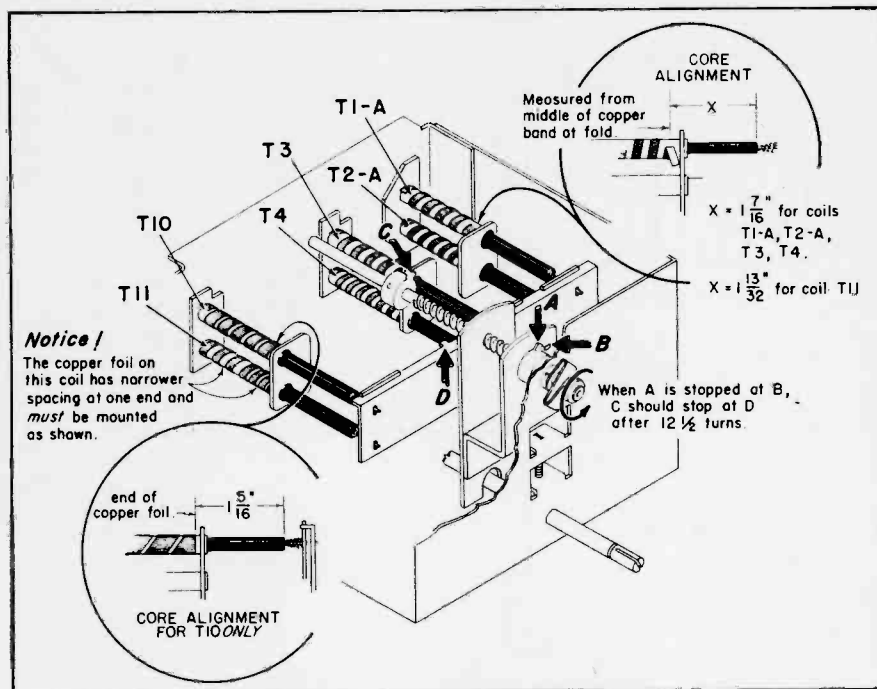
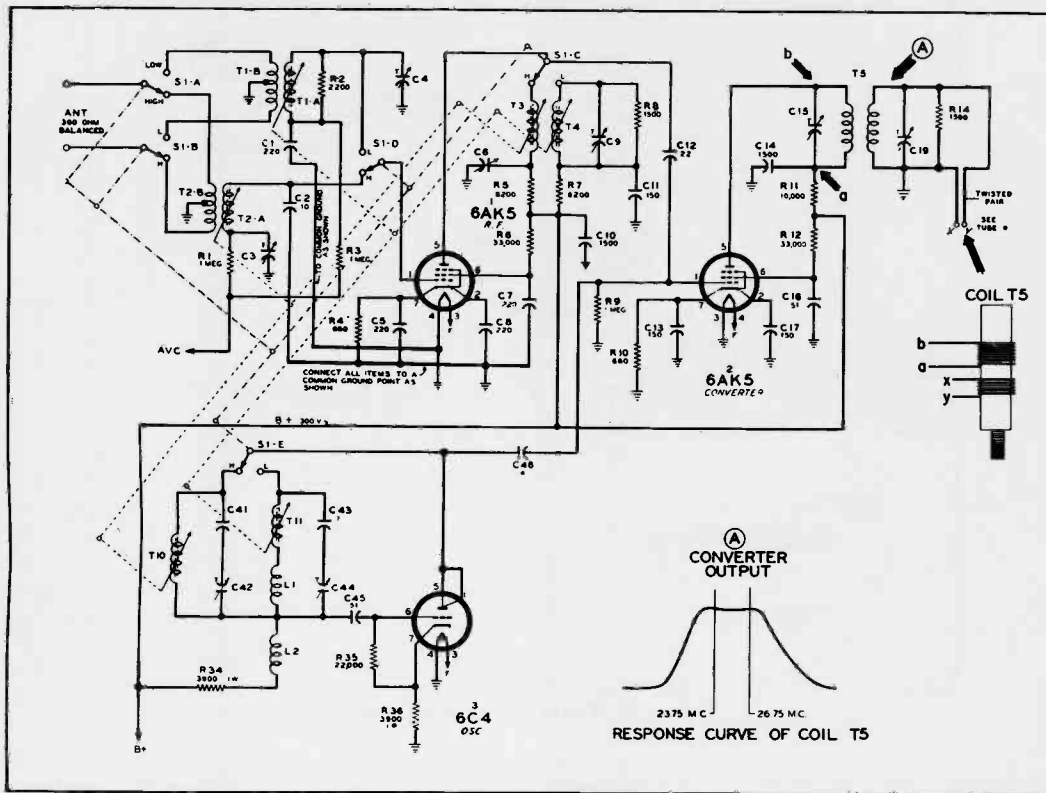

Figure 5. Tuner Core Adjustment
Figure 7. Tuner Section
| <p>No picture No sound Raster normal</p> | <p>a. Check antenna and lead-in. b. Check for defective tubes 1, 2, 3, 4. c. Check band switch. d. Check oscillator circuit. e. Check resistances and voltages of tuner and 1st video i-f tubes. f. Check alignment.</p> | <p>a. Sec. III b. Fig. 17 c. Par. 3 and Figs. 5, 7 d. Fig. 7 e. Fig. 18</p> |
The illustration of the ribbon tuning coils and the specifications for setting the slugs, shown in figure 5, will be useful when replacements are necessary.
The r-f amplifier (see figure 7) makes use of a type 6AK5 tube (1) employing higher-than-normal bias in order to reduce input loading on the high-band coils. However, resistor R2 is used to damp low-band coil T1-A.
The converter (see figure 7) makes use of a type 6AK5 tube (2) biased by both cathode bias (R10 and C13) and the oscillator voltage appearing on the grid causing rectification and charging the grid resistor-and-capacitor combination of R9 and C46.
The oscillator (see figure 7) makes use of a type 6C4 tube (3) connected as a modified Colpitts using the cathode-to-grid and cathode-to-plate inter-electrode capacities to maintain oscillation.